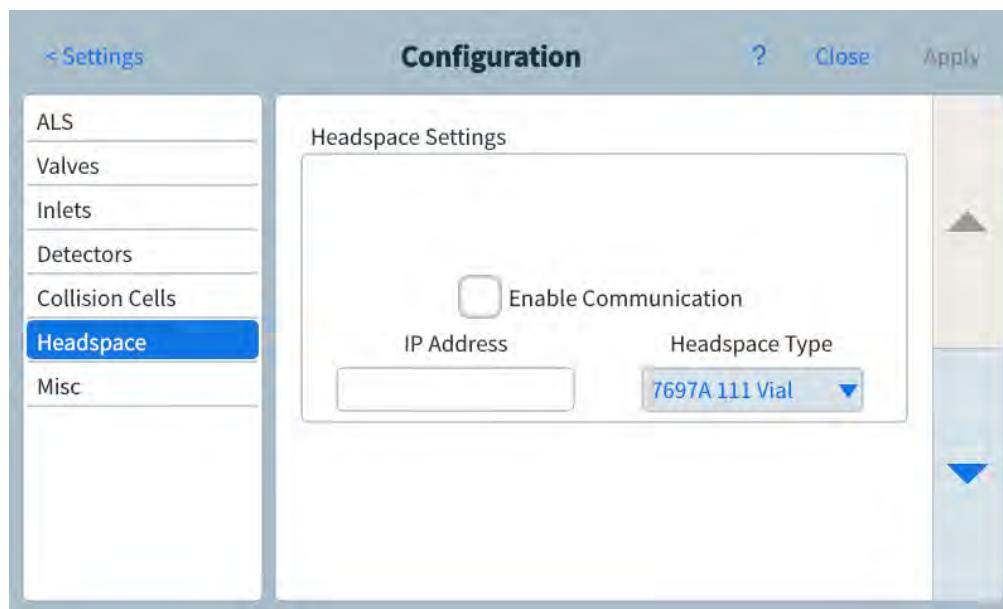

Figure 65. Headspace settings page
- 1 Select **Settings** > **Configuration** > **Headspace**. See **Figure 65**.